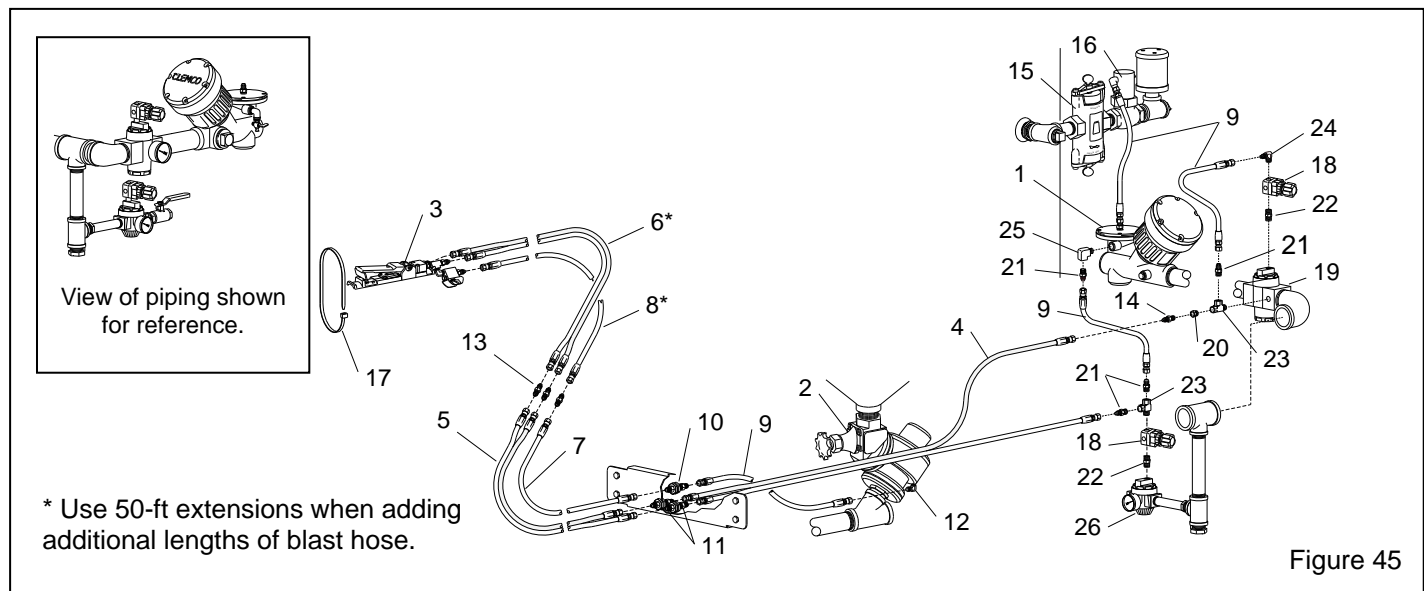

Figure 45
9.2 Remote Control System Parts, Figure 45